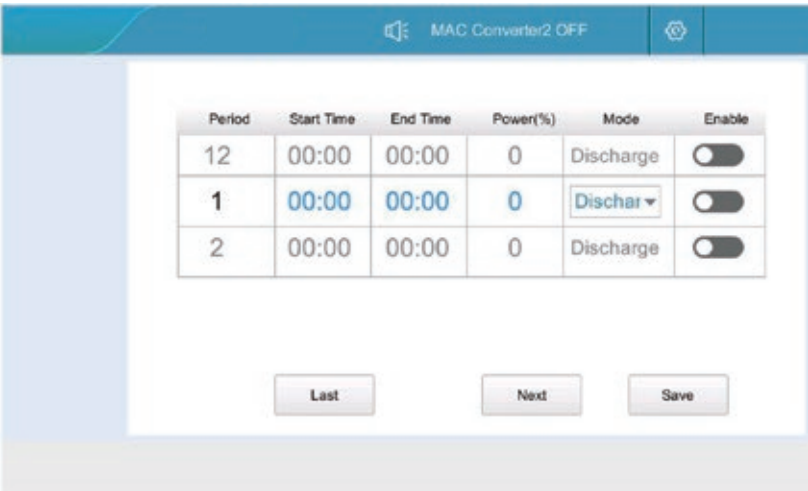

Figure 5. 13 Peak shaving and valley filling charge and discharge time setting interface
- 6、 The LCD touch screen software is finished, click the "Restart" button, and the version update will take effect, as shown in Figure 5. 2 4 . Customers can upgrade the DSP and ARM according to the actual situation, and then click "Restart".